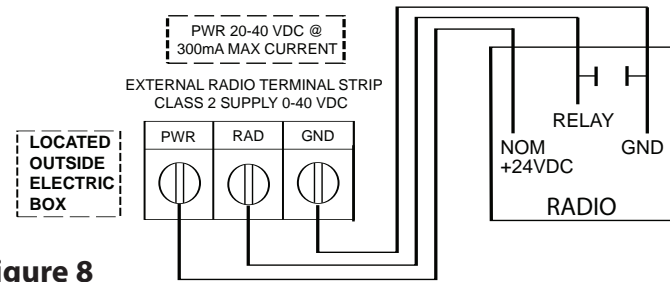

Figure 8
1) For a 3-wire radio control installation, make connections as shown in **Fig. 8**.